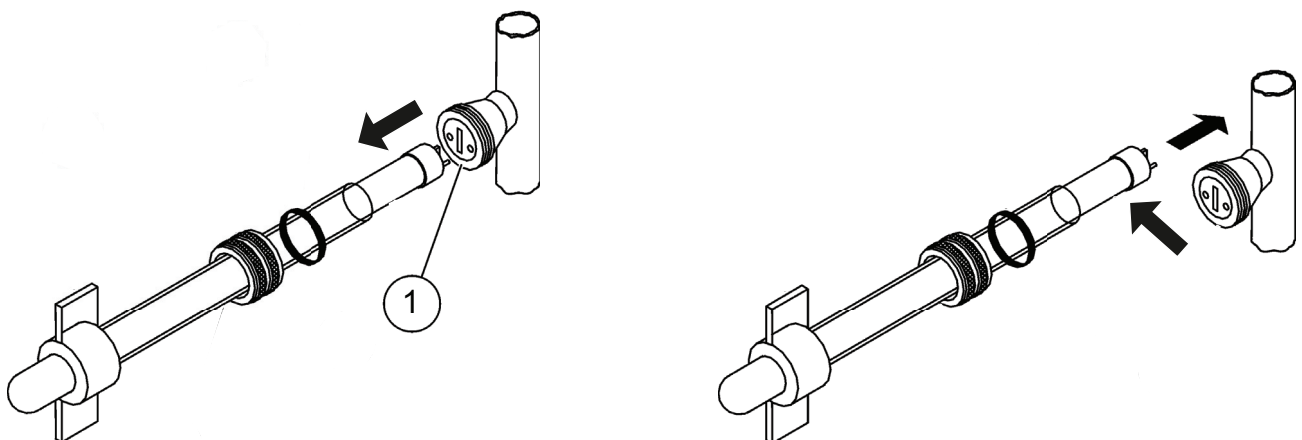

Figure 8 Remove the UV lamp
4. Pull the UV lamp away from the UV lamp holder to disconnect it. Do not remove the molded UV lamp holder from the steel sleeve cup. Support the lamp sleeve. Refer to Figure 8.